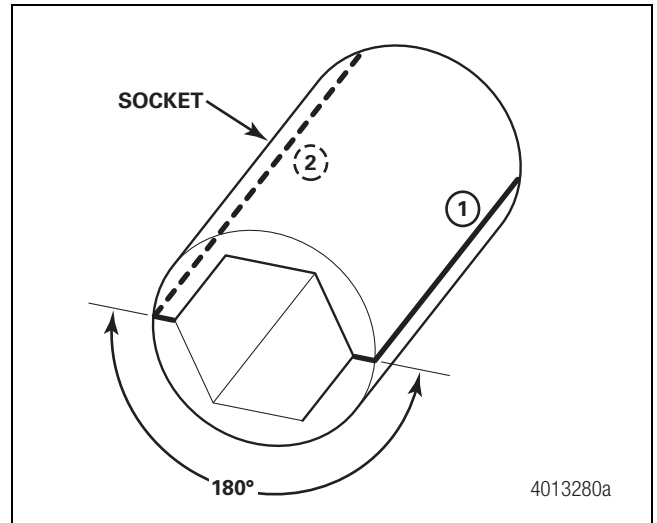

Figure 9
- B. Using a marker, mark the socket in two places 180 degrees apart (half turn) and label those marks as #1 and #2. Figure 9.